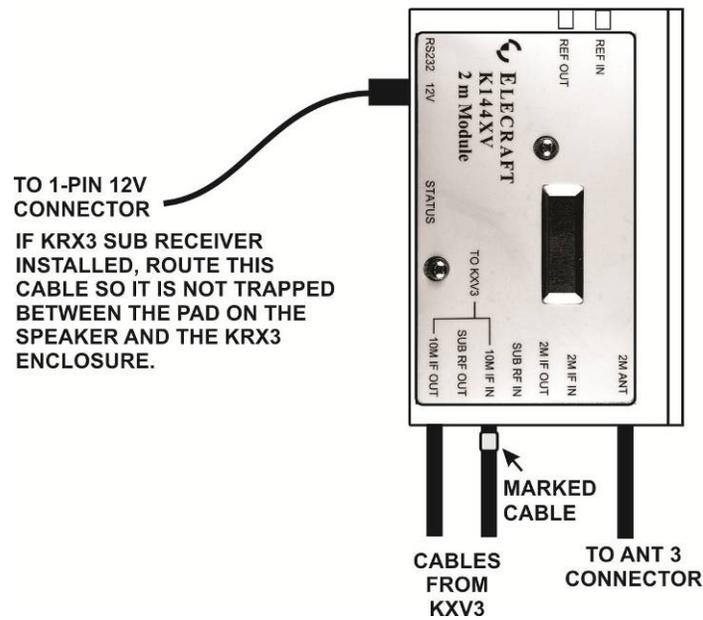

Figure 15. Basic K144XV Cabling (No K144XV Ref Lock).
- If you have a K144XV without the optional K144XV Ref Lock installed, see Figure 15.